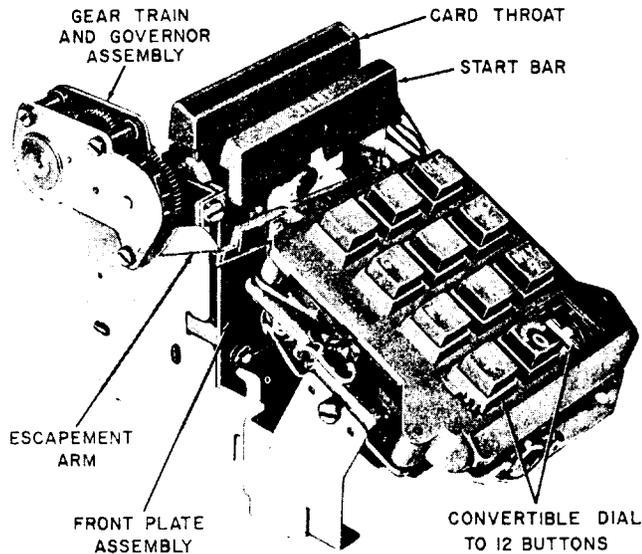

Fig. 2 — 26F Dial, Left Side View
- Gear train assembly — controls speed and timing (Fig. 2)
- Card throat — provides switching (Fig. 2)
- Front plate assembly — controls start and stop action (Fig. 2)
- START bar (Fig. 2) when depressed operates the common switch of associated TOUCH-TONE dial and starts dialing mechanism.
- (e) Escapement arm (Fig. 2) should work freely without binding or catching.
- (6) Inspect precoded cards. All cards bent, warped, dirty (heavy accumulation of dirt), or deformed by heat (such as cigarette burns) should be replaced.